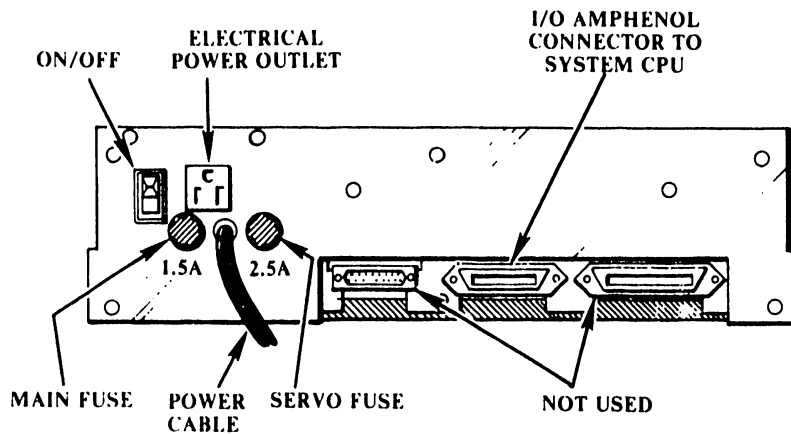

FIGURE 2-3 REAR PANEL
- 2) The 36-pin I/O cable connector must be plugged into the I/O Amphenol connector on the rear panel (See Figure 2-3). The other end plugs into the system CPU.
- 1) Set the ON/OFF switch on the rear panel (see Figure 2-3) to ON.
- 1) **POWER lamp:** The POWER lamp illuminates and the alarm tone sounds when power is turned on by the ON/OFF switch on rear panel (see Figure 2-3).
#### 3.1.2 REAR PANEL (REFER TO FIGURE 2-3)